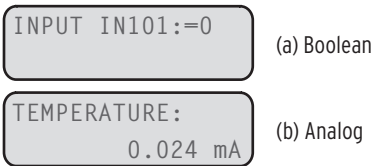

Figure 4.75 Front-Panel Display for an Entry in (a) Boolean Name and Alias Strings and (b) Analog Name and User Text and Formatting Strings
Figure 4.75 shows the front-panel display for the entry in Table 4.57. Input IN101 is deasserted in this display (0), and the display changes to INPUT IN101=1 when Input IN101 asserts.